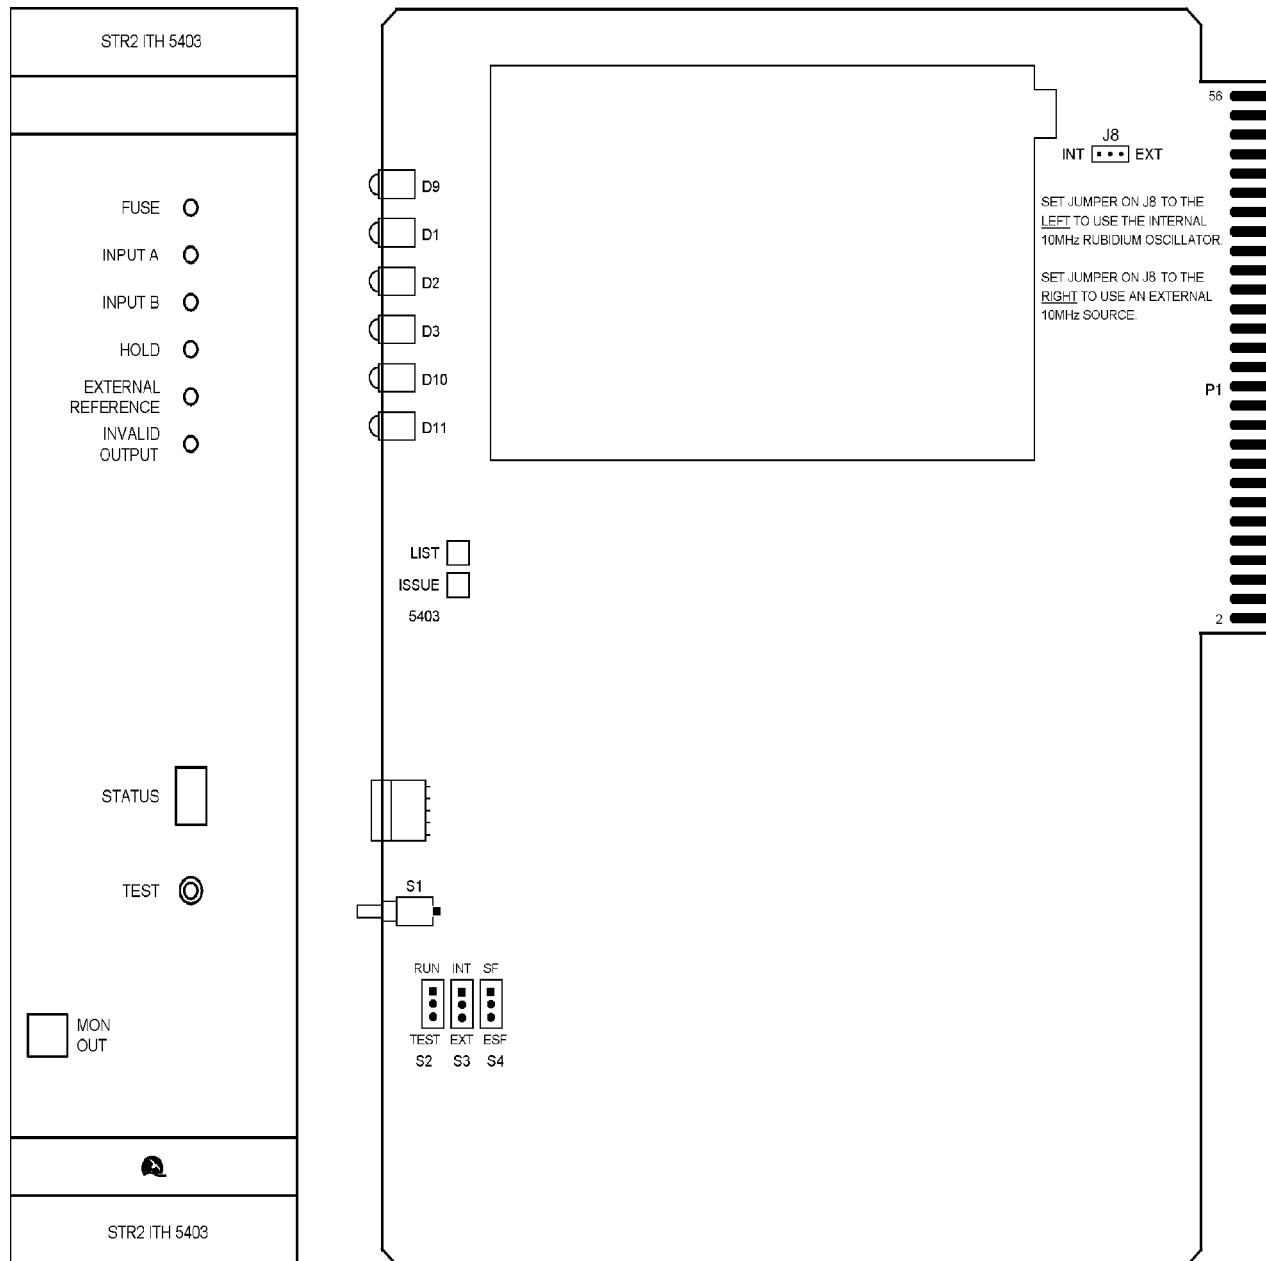

Figure 3-4. Model 5403 Stratum 2 Track and Hold Card with Front Panel
3.331 For switch locations and front panel of the Model 5403, refer to Figure 3-4.